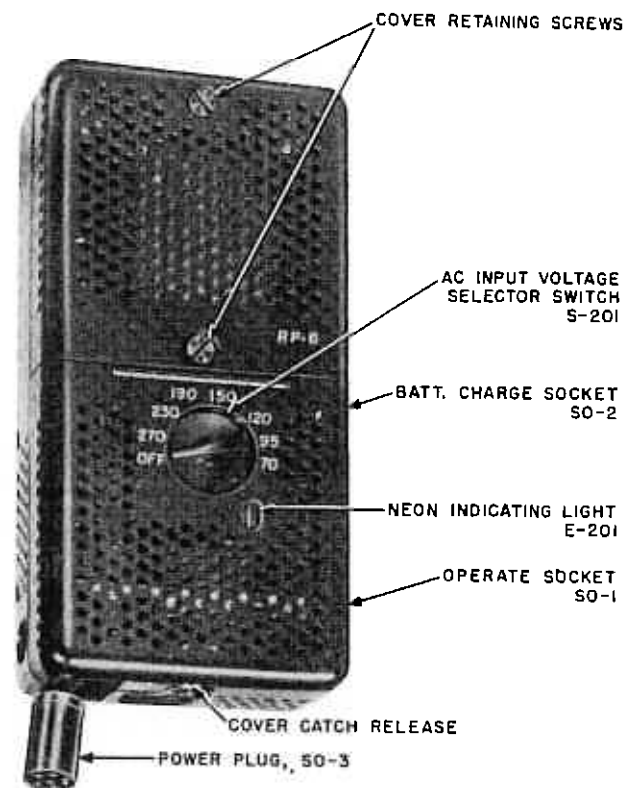

Figure 4. Power Supply RP-6 showing control switch and power plug.
a. Turn the input voltage selector switch on Power Supply RP-6 (Figure 4) to OFF.
(1) Turn the input voltage selector switch on Power Supply RP-6 to OFF. (Figure 4)
(2) Disconnect Power Supply RP-6 power plug from the Filter-Accessory Unit, RA-6, if it is not already disconnected. This plug must be disconnected to avoid blowing the fuse.
(3) Insert the Jones plug marked BAT in the receptacle marked BATT-CHARGE.
(4) Connect the red battery lead to the positive 6-volt terminal of the storage battery.
(5) Connect the black battery lead to the negative terminal of the storage battery.
(6) Insert the Jones plug marked AC in the receptacle marked OPERATE.
(7) Connect the two-prong plug of the AC cable assembly to any a-c power source whose voltage is between 70 and 270 volts, and frequency between 40 and 400 cps. The two-prong a-c power plug can be adapted to various receptacles in the following ways: